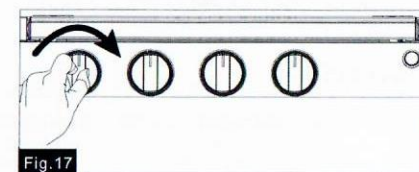

Fig. 17
4. Turn the ignition knob clockwise repeatedly until burner Lights. (Figure 17)